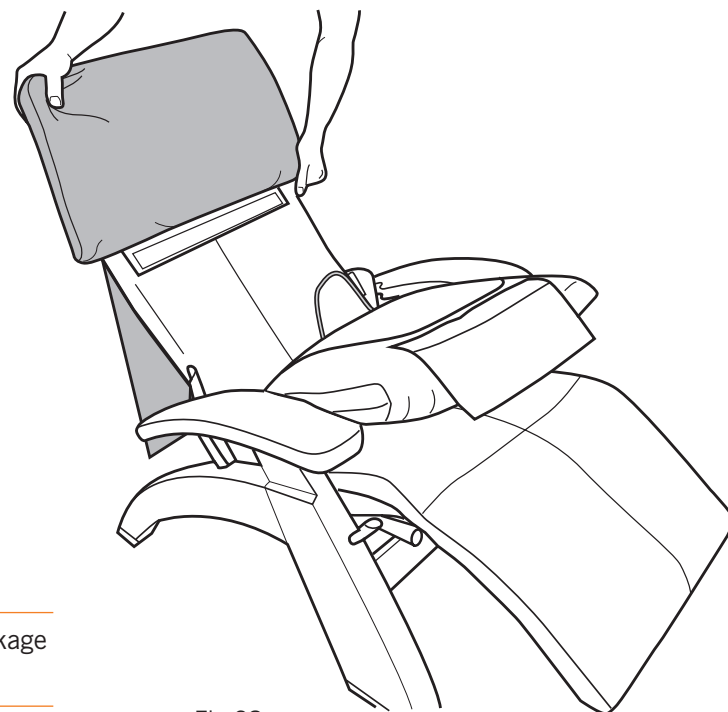

Fig.28
2. Slide the headrest pad over the head rest frame (Fig.28).